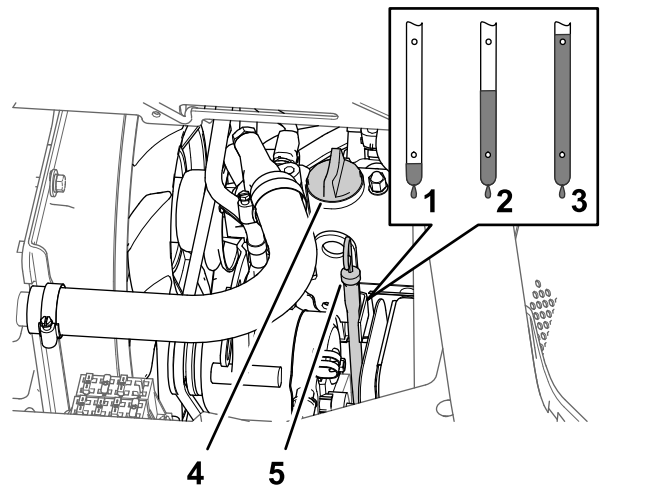

Figure 113
5. Remove the oil-filler cap from the filler neck of the valve cover of the engine (Figure 113) and slowly pour approximately 80% of the specified amount of oil into the filler neck.
6. Remove the dipstick and check the oil level in the engine (Figure 113).
7. Slowly add additional specified oil to bring the oil level to the full mark on the dipstick (Figure 113).
8. Install the oil-filler cap into the filler neck and the dipstick into the dipstick tube (Figure 113).